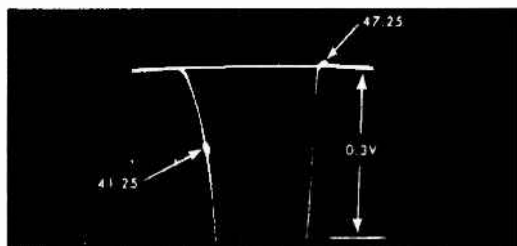

Fig. 6 Expanded View Of Traps
9. Switch the oscilloscope to 10X gain used in the above steps to blow up the trap slots. Adjust both 47.25 Mc traps for maximum attenuation of 47.25 Mc marker. The 41.25 Mc marker should be in the approximate position shown in Fig. 6. On some receivers more oscilloscope gain, more signal input, or lower bias may be necessary to adjust the 47.25 Mc trap. (If the 41.25 Mc marker does not fall at the